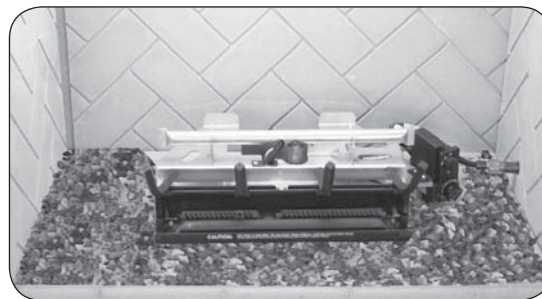

Fig. 18-1 Place lava granules
1. Spread the lava granules on the floor of the fireplace, around the front and sides of the burner system (see Fig. 18-1). The lava granules may be placed around the remote receiver (as applicable). Leave the front of the receiver clear for control access.